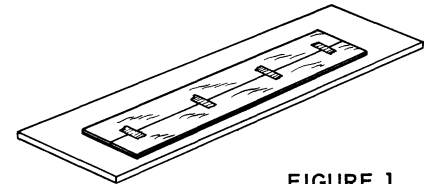

FIGURE 1
**Step 1.** Lay a piece of wax paper on your work table, then butt the two sheets together, and tape them with masking tape per Fig. 1.